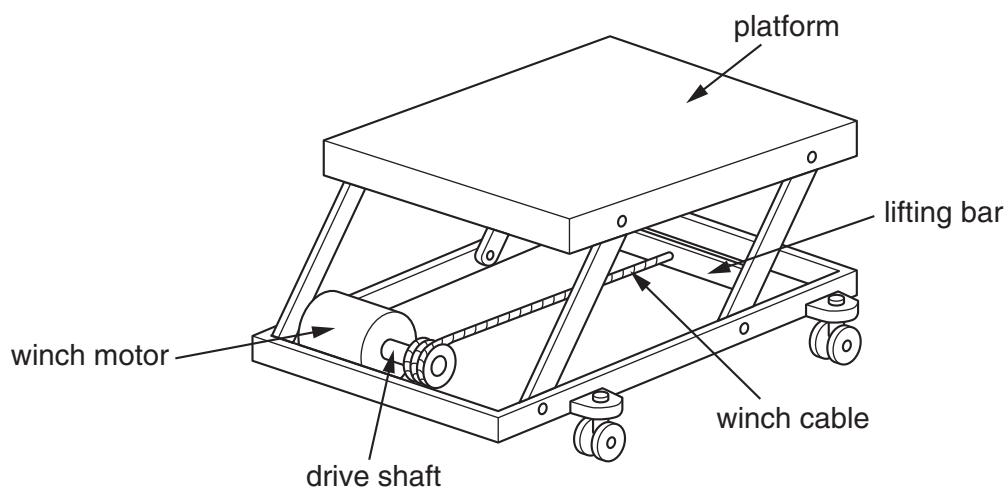

Fig. 2
Fig. 2 shows a mechanical lifting platform.
- (a) Give **four** justified design requirements for the mechanical lifting platform shown in Fig. 2.